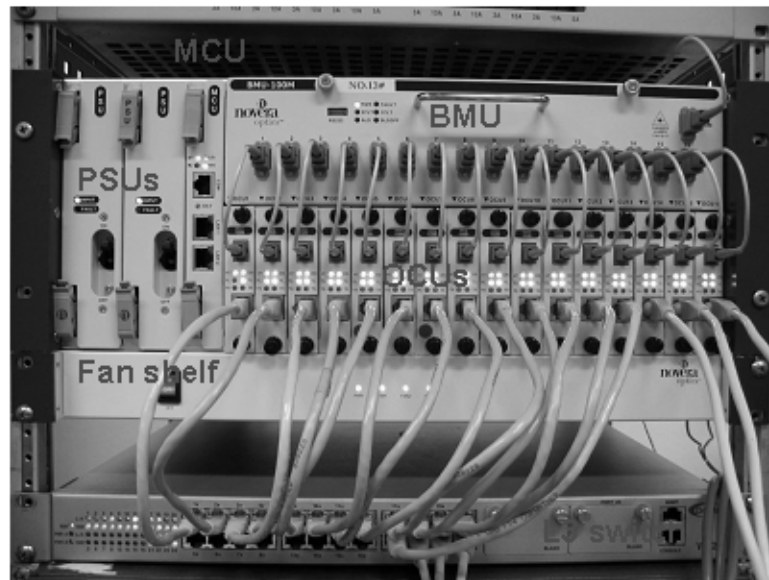

Fig. 3-2 OCU and BMU optical connection, OCU and L3 switch electrical connection
- For optical connections between OCU and BMU, use the SC/APC type optical patch cord (2.4 mm thick, 20 cm long) that are providing in the OCU shipping boxes. (See Fig. 3-2 for connection example)
- For electrical connection (RJ45) between Aggregation switch in CO with OCU, use the straight type UTP cable (Cat. 5e or Cat. 6). (See Fig. 3-2 for connection example)